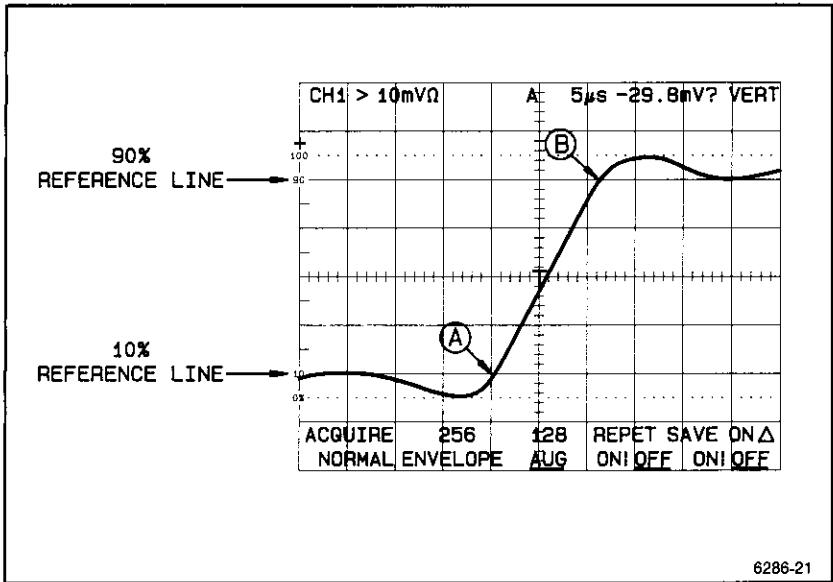

Figure 3-5. Rise time of a square wave (time duration).
5. Horizontally position the square wave so that the 10% point on the waveform intersects a vertical graticule line near the left side of the screen (see point A of Figure 3-5).
6. Count the number of horizontal divisions (include fractional div) between the 10% and 90% amplitude levels (points A and B of Figure 3-5) on the waveform. Use the following general formula for time duration measurements to determine the rise time:
EXAMPLE: Figure 3-5 gives the SEC/DIV control setting as $5 \mu\text{s}$ for the A time base. Counting the number of divisions between the 10% and 90% graticule lines (marked as A and B in diagram) yields 2.2 divisions. Substituting into the formula: